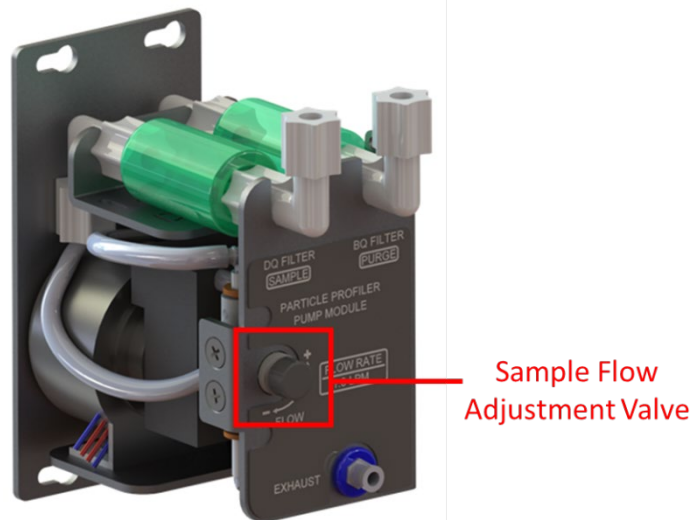

Figure 6-24 The flow rate of the Particle Nephelometer is set by adjusting the purge and exhaust valves.
6. If the flow rate is incorrect, adjust the sample flow by pulling out on the sample flow adjustment valve as shown in Figure 6-24. The flow rate of the Particle Nephelometer is set by adjusting the sample flow adjustment valve and rotating in the indicated direction to adjust the flow until the flow rate is correct.